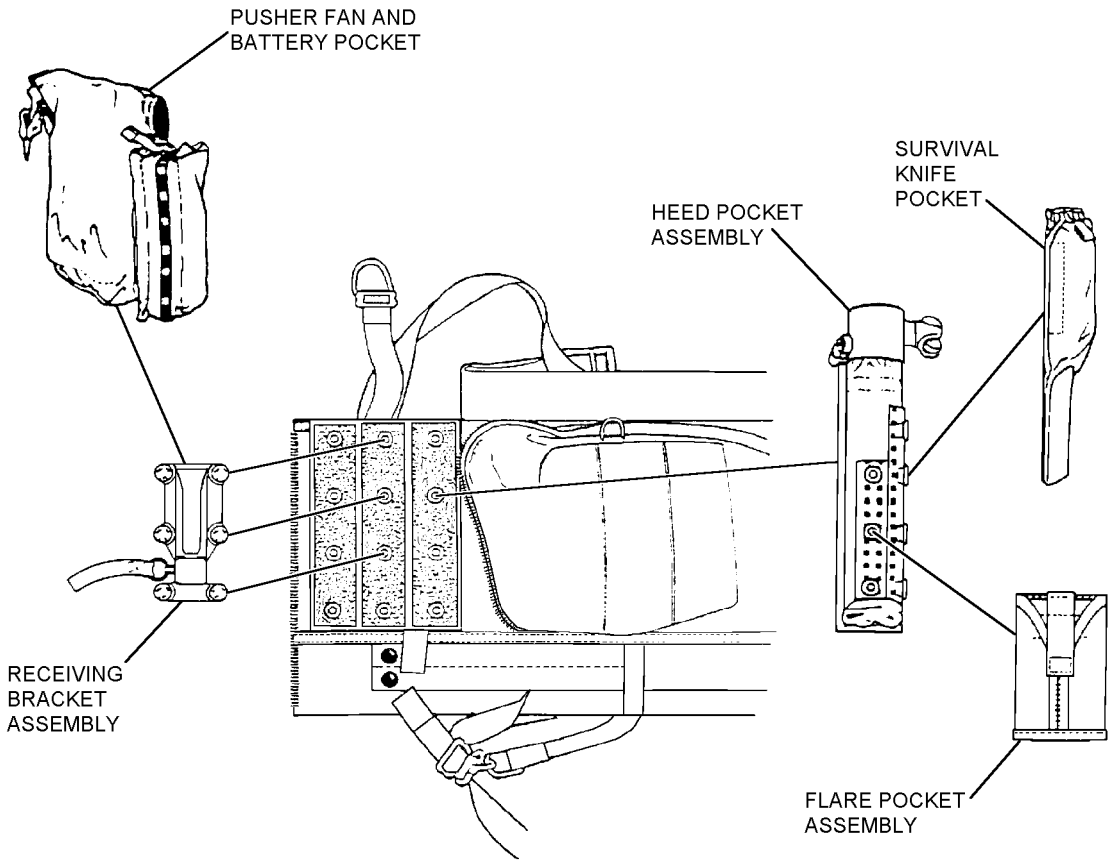

Figure 9-3. Attachment of CMU-23A/P Survival Vest CBR Components
6. Lay CMU-23A/P Survival Vest on flat surface with snap fastener panel facing up and on left. See figure 9-3.